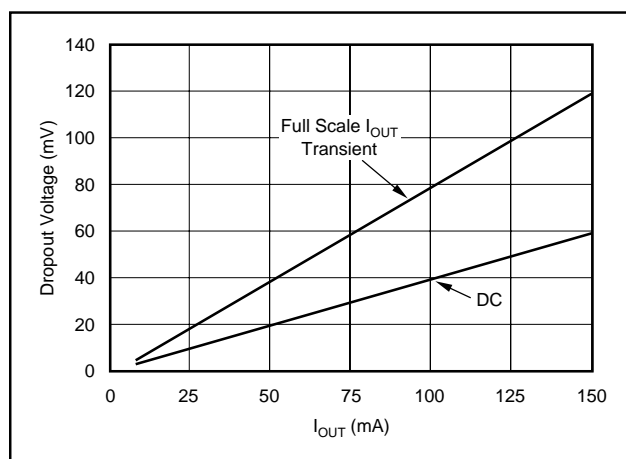

FIGURE 6. Transient and DC Dropout.
The REG101 uses an N-channel DMOS as the “pass” element. When the input voltage is within a few tens of millivolts of the output voltage, the DMOS device behaves like a resistor. Therefore, for low values of V_{IN} to V_{OUT} , the regulator’s input-to-output resistance is the $R_{DS(ON)}$ of the DMOS pass element (typically 600m Ω). For static (DC) loads, the REG101 will typically maintain regulation down to V_{IN} to V_{OUT} voltage drop of 60mV at full rated output current. In Figure 6, the bottom line (DC dropout) shows the minimum V_{IN} to V_{OUT} voltage drop required to prevent drop-out under DC load conditions.
For large step changes in load current, the REG101 requires a larger voltage drop across it to avoid degraded transient response. The boundary of this “transient drop-out” region is shown as the top line in Figure 6. Values of V_{IN} to V_{OUT} voltage drop above this line insure normal transient response.